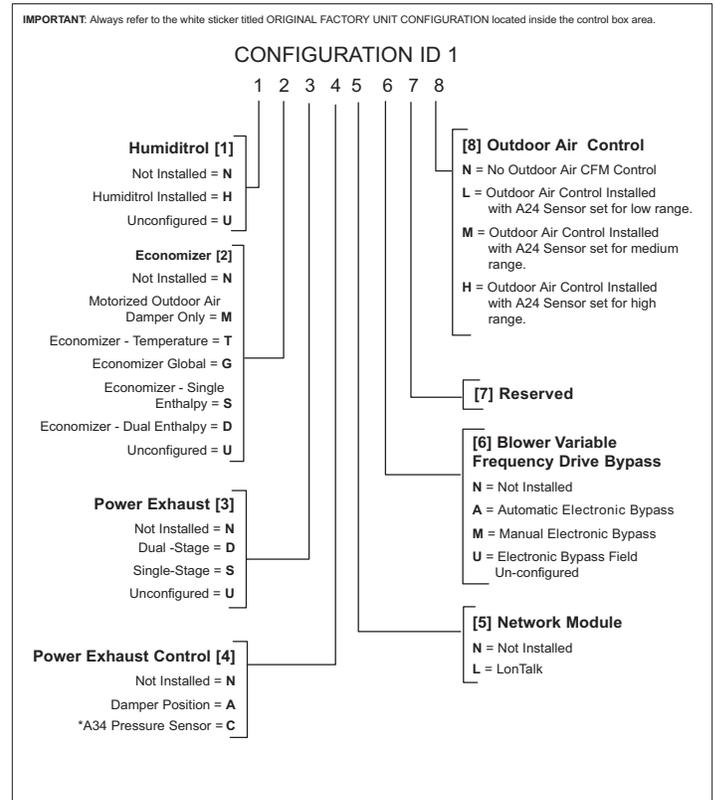
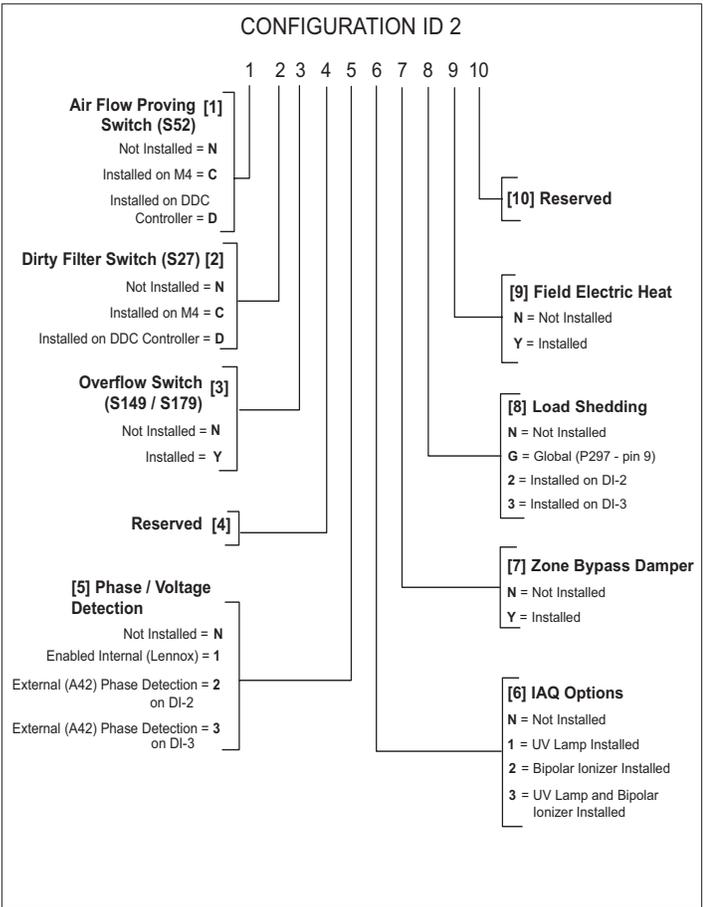

Figure 5. Configuration ID 1
Figure 6. Configuration ID 2
- Model Number (see “Figure 5. Configuration ID 1”) and serial number. Model , serial and catalog numbers are located on the RTU nameplate.
- RTU Information. Configuration ID 1 and 2 can be entered here. See figures “Figure 5. Configuration ID 1” on page 8 and “Figure 6. Configuration ID 2” on page 9 for further details.